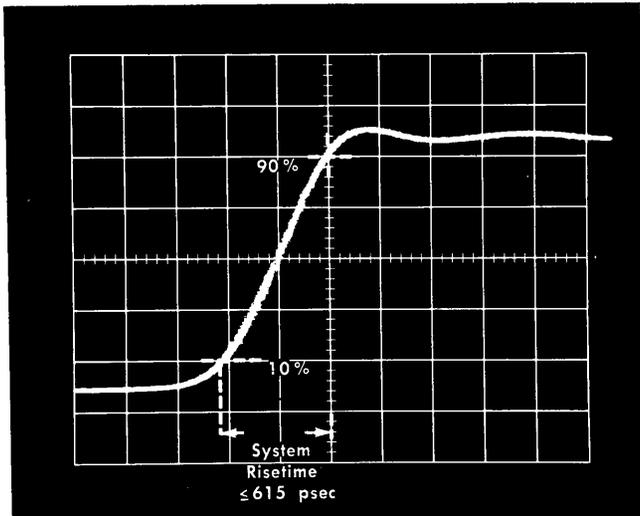

Fig. 5-6. Output pulse risetime measurement using sampling oscilloscope with 0.35 nsec risetime.
- c. Measure the 10-90% risetime of the displayed pulse (see Fig. 5-6). Risetime as displayed with the recommended sampling oscilloscope (Type 561A/3S3) should not exceed 615 psec with the Type 3S3 Noise-Risetime switch set at Fast RT and the Smoothing control set for unity gain. System risetime of 615 psec or less represents a risetime of 500 psec or less for the Type 111**. If the Type 111 risetime exceeds 500 psec, Q84 may require replacement unless sufficient improvement can be made by readjusting the AVALANCHE ADJUST control (step 10) and C77 (step 11).